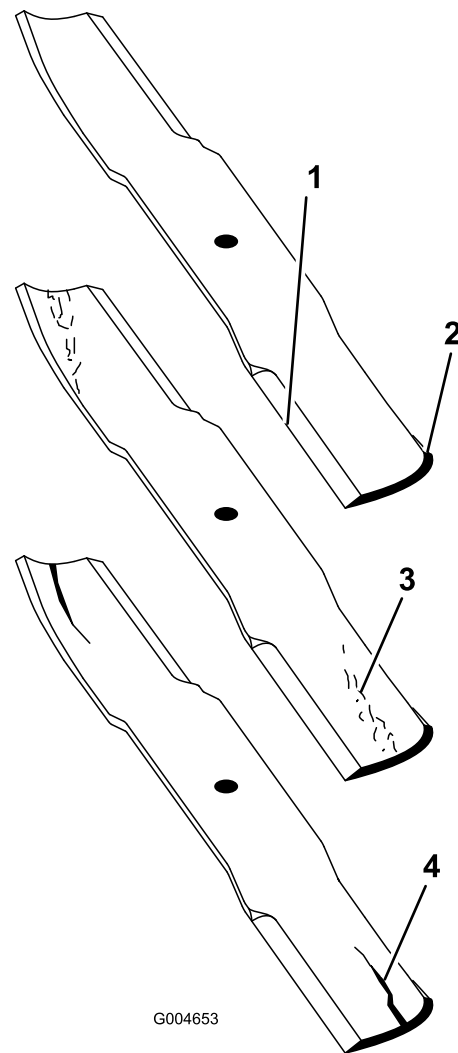

Figure 124
2. Examine the cutting ends of the blade carefully, especially where the flat and curved parts of the blade meet (Figure 124).
**Note:** Because sand and abrasive material can wear away the metal that connects the flat and curved parts of the blade, check the blade before using the mower. If wear is noticed (Figure 124), replace the blade.